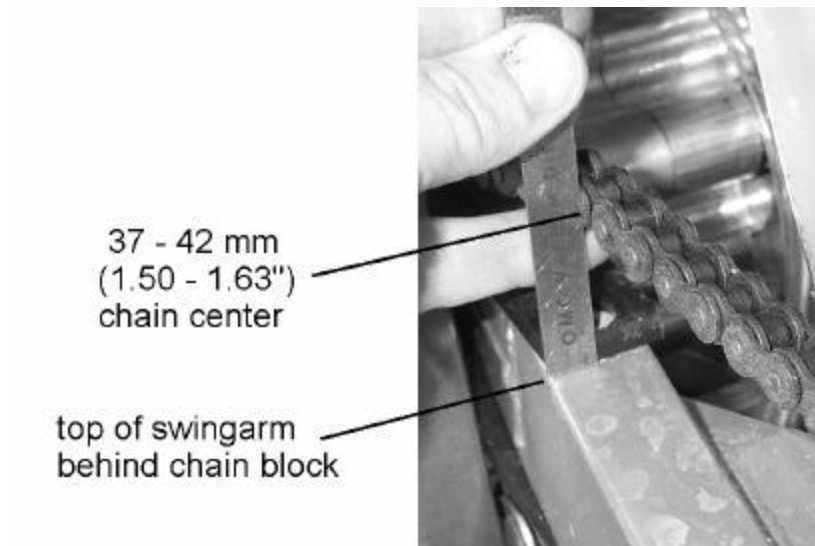

Figure 2
2. Adjust the chain adjusters in the end of the swingarm (clockwise for tighter chain) until proper chain tension, 37 – 42mm (1.50” – 1.63”) is achieved (13 mm wrench). See figure 2 for proper measurement location.